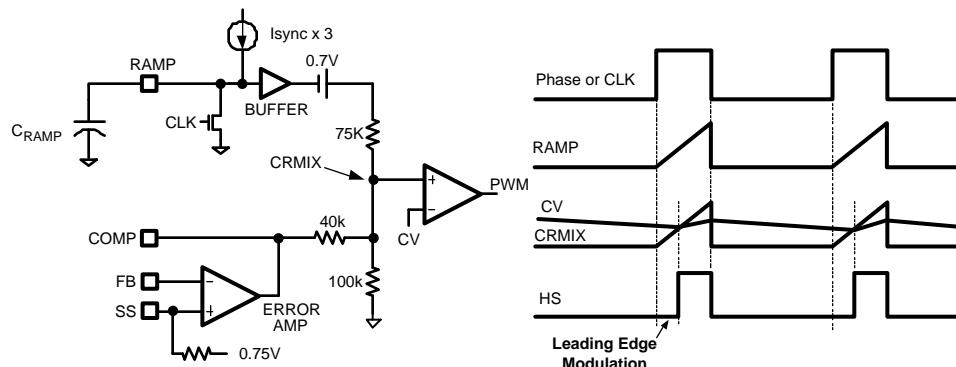
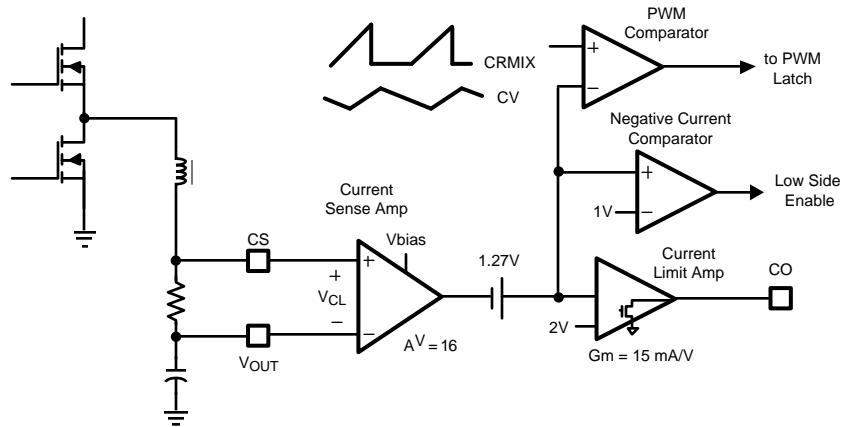

Figure 13. Synchronization and Leading Edge Modulation
Figure 15. Current Sensing and Limiting
Unlike conventional voltage mode controllers, the LM25115 implements leading edge pulse width modulation. A current source equal to 3 times the I_{SYNC} current is used to charge the capacitor connected to the RAMP pin as shown in Figure 13. The ramp signal and the output of the error amplifier (COMP) are combined through a resistor network to produce a voltage ramp with variable dc offset (CRMIX in Figure 13). The high side MOSFET which drives the HS pin is held in the off state at the beginning of the phase signal. When the voltage of CRMIX exceeds the internal threshold voltage CV, the PWM comparator turns on the high side MOSFET. The HS pin rises and the MOSFET delivers current from the main converter phase signal to the output of the auxiliary regulator. The PWM cycle ends when the phase signal falls and power is no longer supplied to the drain of the high side MOSFET.
The LM25115 controller uniquely combines elements and benefits of current mode control in a voltage mode PWM controller. The current sense amplifier shown in Figure 15 monitors the inductor current as it flows through a sense resistor connected between CS and VOUT. The voltage gain of the sense amplifier is nominally equal to 16. The current sense output signal is shifted by 1.27V to produce the internal CV reference signal. The CV signal is applied to the negative input of the PWM comparator and compared to CRMIX as illustrated in Figure 13. Thus the PWM threshold of the voltage mode controller (CV) varies with the instantaneous inductor current. Insure that the Vbias voltage is at least 3V above the regulated output voltage (VOUT).
Current limiting is implemented through the current sense amplifier as illustrated in Figure 15. The current sense amplifier monitors the inductor current that flows through a sense resistor connected between CS and VOUT. The voltage gain of the current sense amplifier is nominally equal to 16. The output of current sense amplifier is level shifted by 1.27V to produce the internal CV reference signal. The CV signal drives a current limit amplifier with nominal transconductance of 16mA/V. The current limit amplifier has an open drain (sink only) output stage and its output pin, CO is typically connected to the COMP pin. During normal operation, the voltage error amplifier controls the COMP pin voltage which adjusts the PWM duty cycle by varying the internal CRMIX level (Figure 13). However, when the current sense input voltage V_{CL} exceeds 45mV, the current limit amplifier pulls down on COMP through the CO pin. Pulling COMP low reduces the CRMIX signal below the CV signal level. When CRMIX does not exceed the CV signal, the PWM comparator inhibits output pulses until the CRMIX signal increases to a normal operating level.
When inductor current flows from the regulator output through the low side MOSFET, the input to the current sense comparator becomes negative. The intent of the negative current comparator is to protect the low-side MOSFET from excessive currents. Negative current can lead to large negative voltage spikes on the output at turn off which can damage circuitry powered by the output. The negative current comparator threshold is sufficiently negative to allow inductor current to reverse at no load or light load conditions. It is not intended to support discontinuous conduction mode with diode emulation by the low-side MOSFET. The negative current comparator illustrated in Figure 15 monitors the CV signal and compares this signal to a fixed 1V threshold. This corresponds to a negative V_{CL} voltage between CS and VOUT of -17mV. The negative current limit comparator turns off the low-side MOSFET for the remainder of the cycle when the V_{CL} input falls below this threshold.
Both drivers are controlled by the PWM logic signal from the PWM latch. When the phase signal is low, the outputs are held in the reset state with the low-side MOSFET on and the high-side MOSFET off. When the phase signal switches to the high state, the PWM latch reset signal is de-asserted. The high-side MOSFET remains off until the PWM latch is set by the PWM comparator (CRMIX > CV as shown in Figure 13). When the PWM latch is set, the LO driver turns off the low-side MOSFET and the HO driver turns on the high-side MOSFET. The high-side pulse is terminated when the phase signal falls and the SYNC input comparator resets the PWM latch.